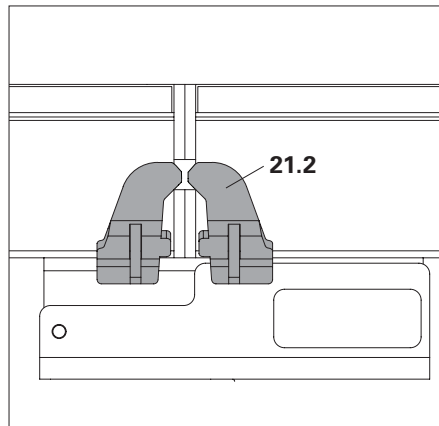

Fig. A4.05
2. Insert clamping jaws (21.2) into the triangular slot at anchor or panel strut location. (Fig.A4.05)